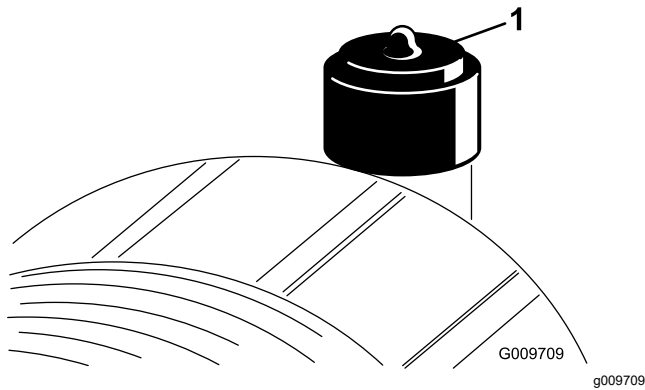

Figure 81
Service the air-cleaner filter only when the service indicator (Figure 81) requires it. Changing the air filter before it is necessary only increases the chance of dirt entering the engine when you remove the filter.
2. Reset the indicator (Figure 81) if it shows red.